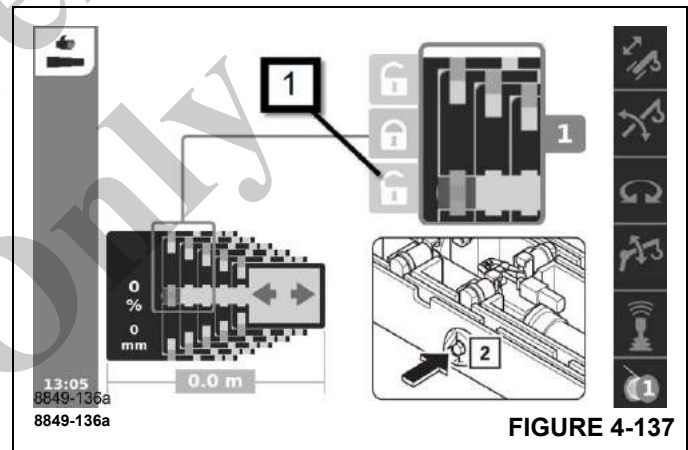

FIGURE 4-137
Select the symbol (1), (Figure 4-137).
Confirm the selection – the locking pins (2), (Figure 4-137) will retract.